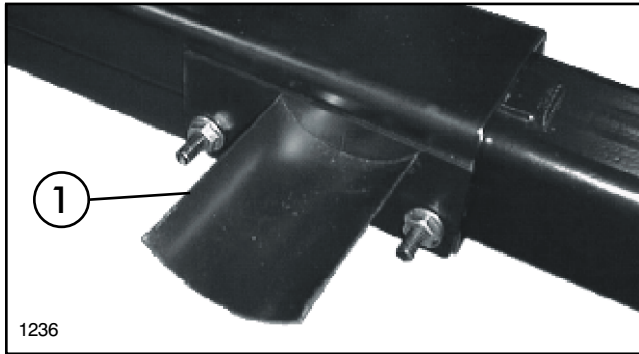

FIG. 4
1. Secure the Strainer Bracket to the rear L.H. side of Engine / Pump Base using studs on Engine / Pump Base and (2) 5/16" flange nuts. See FIG. 4.